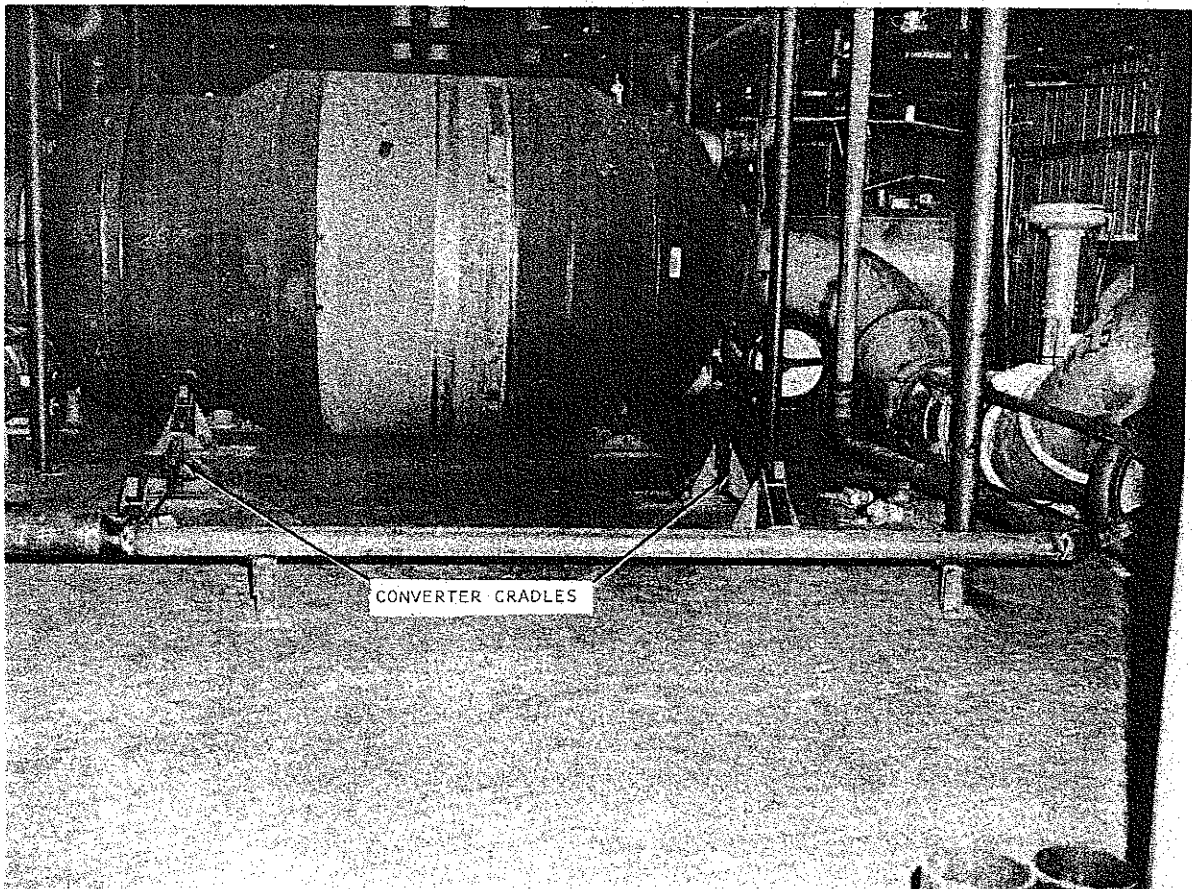

FIG. 4. CONVERTER CRADLES
- c. Apply a small amount of grease to the converter cradles to aid in aligning the converter (Fig. 4).